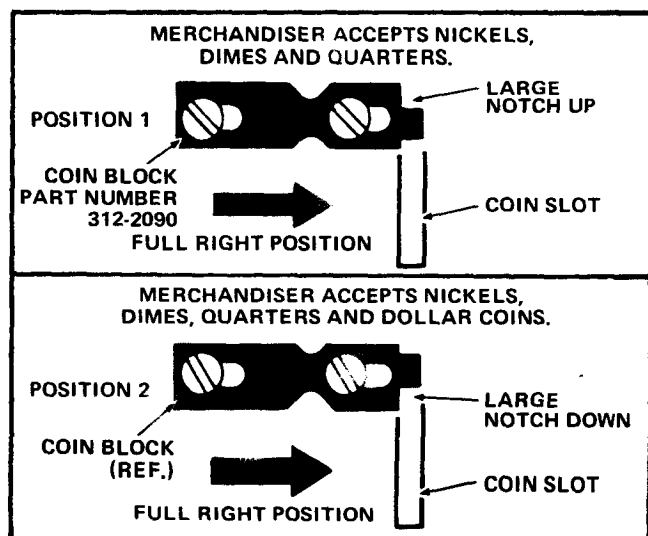

FIGURE 8
9. Install Coin Block, Part Number 312-2090, included in Kit in either of the desired positions shown in Figure 8 with the two Screws removed from the Coin Block on the Merchandiser Monetary Compartment.